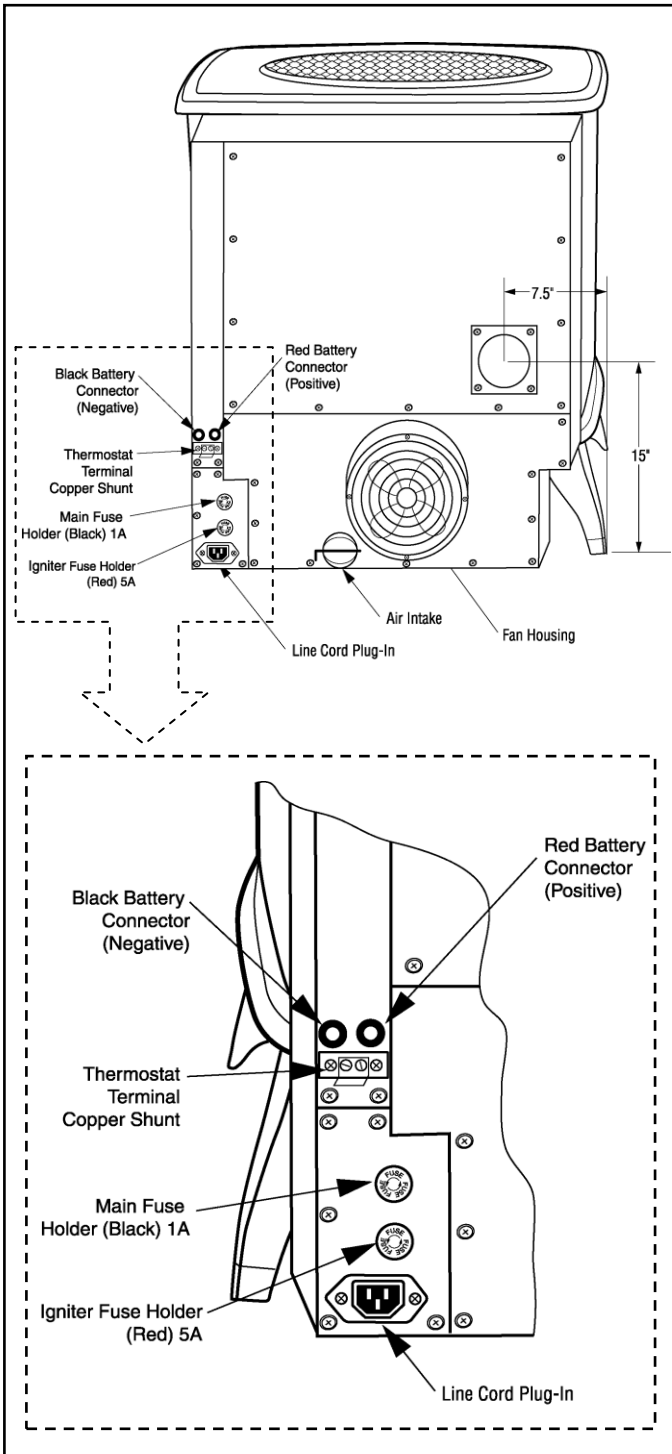

FIGURE 8
A wall or remote thermostat can be hooked to run the Echo 3000 E.I. automatically. The following is a step-by-step procedure for installing the optional thermostat. Note connection terminals on the bottom right side of the unit (see FIGURE 8). Use 18/2 thermostat wire for installation.
2. Hook up the thermostat wires to terminals (see FIGURE 8). Remove copper shunt. Replace shunt if thermostat hook-up is disconnected. If a remote thermostat is used, mount the “receiver” to the bottom of the stove with Velcro and then hook up receiver wires to the terminal (see FIGURE 8). Follow thermostat manufacturer’s instructions.
Follow the thermostat manufacturer’s instructions carefully when using a wall or remote thermostat. Ensure the built in thermostat terminals on the bottom of the stove are used (See FIGURE 8). It is recommended the heater is run on “High” for approximately 30 minutes to get the heat exchanger hot before turning it to “Low.” Burn the heater for a few hours before deciding which setting is optimal.
on the stove. **The red must be plugged in first before the black (see FIGURE 8).**